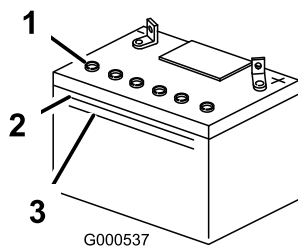

Figure 39
- Look at the side of the battery. The electrolyte must be up to the **upper** line (Figure 39). Do not allow the electrolyte to fall below the Lower line (Figure 39).
5. Remove the vent caps from the battery (Figure 39).
6. Slowly pour distilled water into each battery cell until the electrolyte level is up to the Upper line (Figure 39) on the battery case.
7. Wait 5 to 10 minutes after filling the battery cells. Add distilled water, if necessary, until the electrolyte level is up to the Upper line (Figure 39) on the battery case.